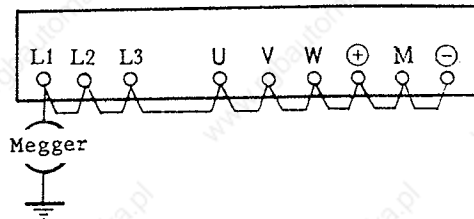

Figure 7-1 Terminal Connection for Insulation Resistance and Withstand Voltage Tests
- (1) Routine check
- (2) Periodical check (yearly)
- (3) Insulation resistance and withstand voltage test
- To conduct insulation resistance and withstand voltage tests, connect the terminals as shown in Figure 7-1 and perform measurements under the following conditions:
- Measure the resistance between a terminal and the ground with a 500 VDC megger as shown in Figure 7-1. Confirm that the inverter withstands 5 MΩ or more.
- Apply 1500 VAC (200 V class), and 2000 VAC (400 V class) between a terminal and ground for one minute as shown in Figure 7-1. Confirm that there is no abnormality.
- Do not perform insulation resistance and withstand voltage tests for the terminals not shown in Figure 7-1 such as printed circuit board.